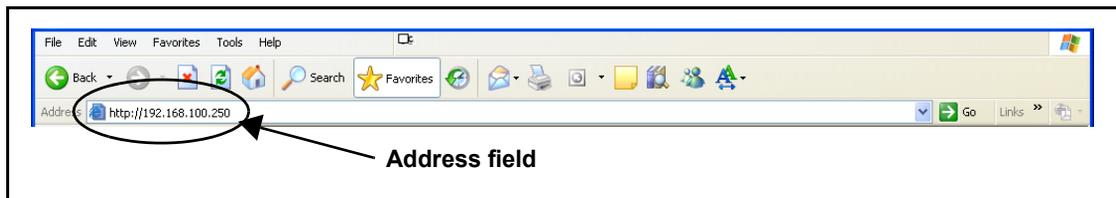

Figure B-5. IP Address Insertion to Add X75OPT-HDDUOCON Option
1. Type the IP address of the X75HD/X75SD unit you are upgrading into the **Address** field of your browser (Figure B-5).